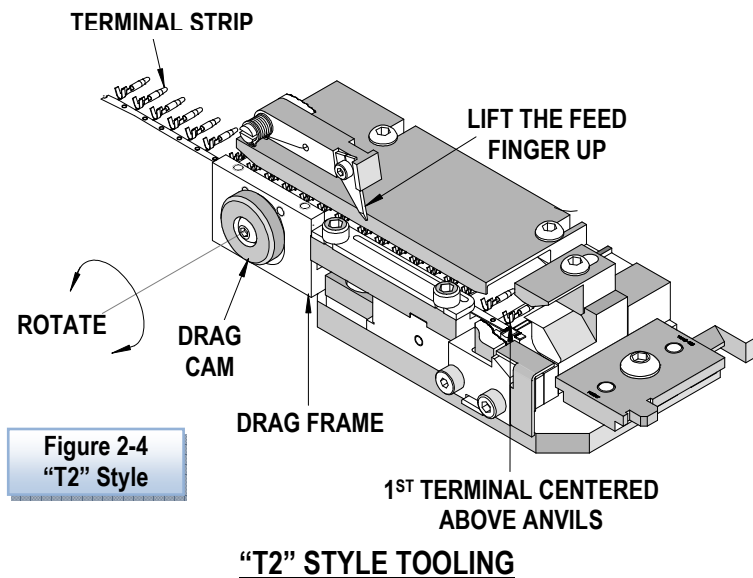

Figure 2-4
1. If using a T2 Terminator, rotate the drag cam until the drag frame is in the upright position. This will allow the terminal to slide easily through the terminal track. See Figure 2-4.
8. Raise feed finger and pull terminal strip backwards until disengaged from applicator track. See Figure 2-4. If preferred, cut the terminal carrier strip and pull it forward through the applicator track with needle nose pliers.